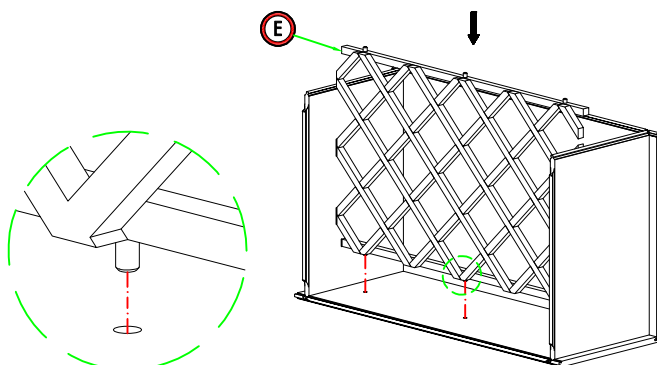

Figure 4
4. Installing the back wine rack frame: Insert the back wine rack frame (E) into the side panel (A) by 3 holes and dowel. (Figure 4)